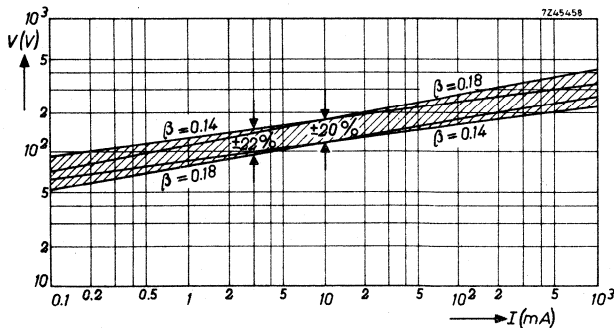

Fig. 10 Spread of voltage/current characteristic due to  $\beta$ -tolerance.
According to Eq. (1) it is possible to specify the electrical characteristics of a VDR resistor by giving its  $C$  and  $\beta$ -values. The advantage of this specification is that only two parameters are used. The disadvantage is, however, that due to the inevitable tolerances on the  $\beta$ -values, the spread in voltages at low currents (in the working area) becomes very large. It is for this reason that the method of specifying by the  $C$ -value defined at 1 A is abandoned and we now specify the voltage across the VDR at currents which lie in the working area (1, 10 or 100 mA instead of 1 A). In this way it is possible to supply VDRs which have much closer tolerances in the area where they are used, see Fig. 10.
Standard VDRs are specified with a certain tolerance on voltage and a spread on  $\beta$ -value. It can be seen in Fig. 10 that due to the spread in  $\beta$ -value the tolerance on voltage may increase at currents other than the specified current at which the VDR is measured.